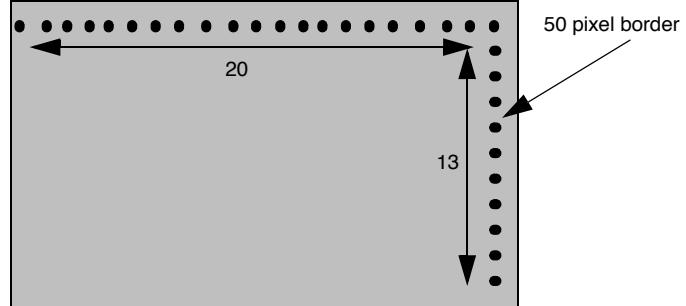

Figure 7-71
- 14.) The objective is to center 13x20 BBs (or 10x20 minimum) on the detector, with roughly 50 pixels between the BBs and the edge of the screen. The BBs cannot be clipped at the edge of the screen. An example of such an acquired image (fluoroxxx.vff) is shown in Figure 7-71.